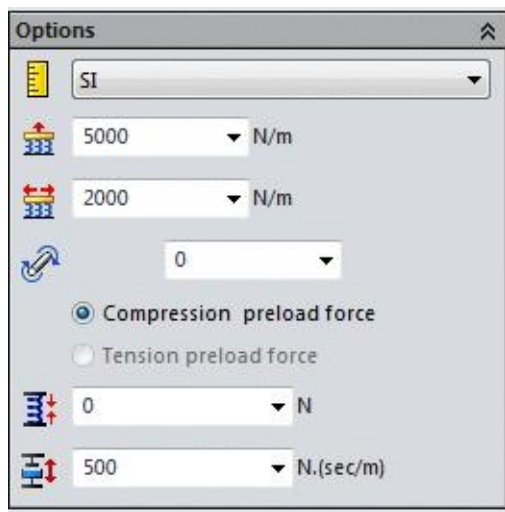

Figure-11. Options rollout
- Enter the values in the **Options** rollout of **PropertyManager** as shown in Figure-11.